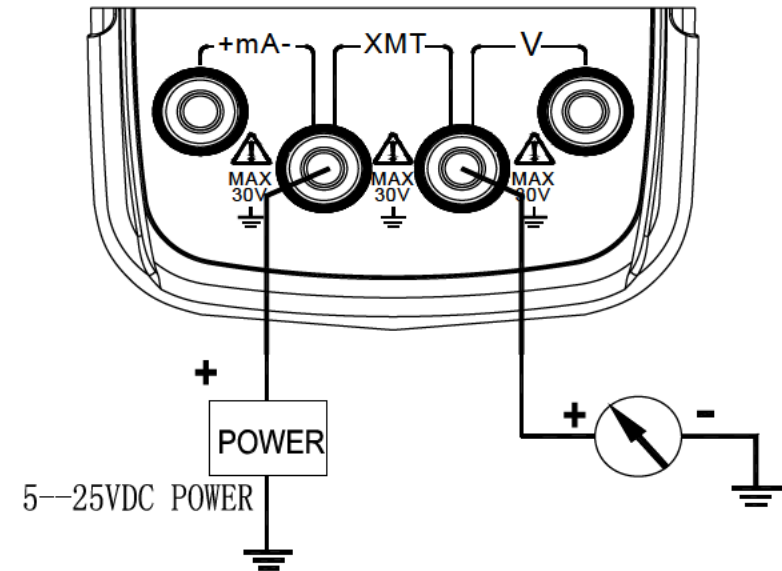

Figure 5-3
- Insert the testing probe into the XMT jack of the meter's output terminal (OUTPUT), and connect the other end with input terminal of the Users' meter, see Figure 5-3: